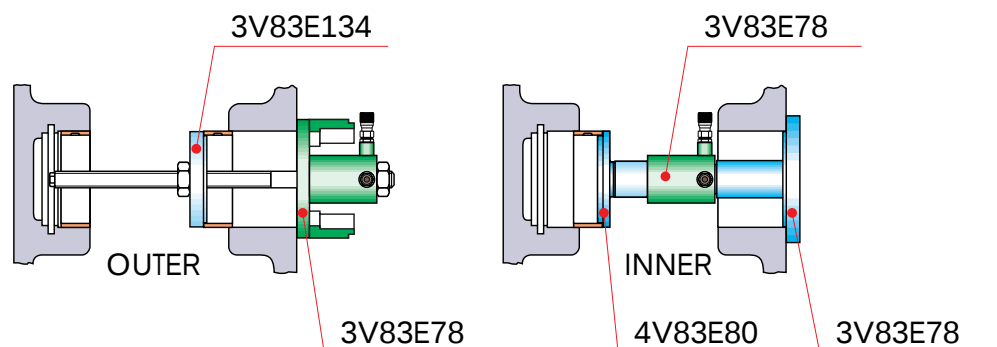

Fig 10-8
- 2** Assemble the removing device 32.13T01 (834053) according to Fig 10-8.